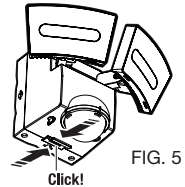

FIG. 5
4. Press the unit on the bottom to the mounting plate. You should hear a "Click" sound. This indicates that the device is securely attached to the mounting plate. FIG. 5